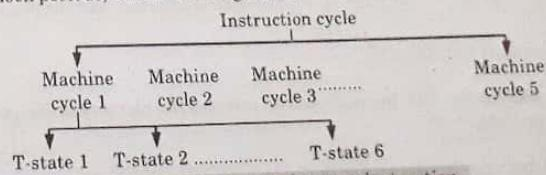

Fig. 2.7.2. Relationship between instruction cycle, machine cycle and T-state.
11. In general, one instruction cycle consists of one to five machine cycles and one machine cycle consists of three to six T-states, i.e., three to six clock periods, as shown in Fig. 2.7.2.